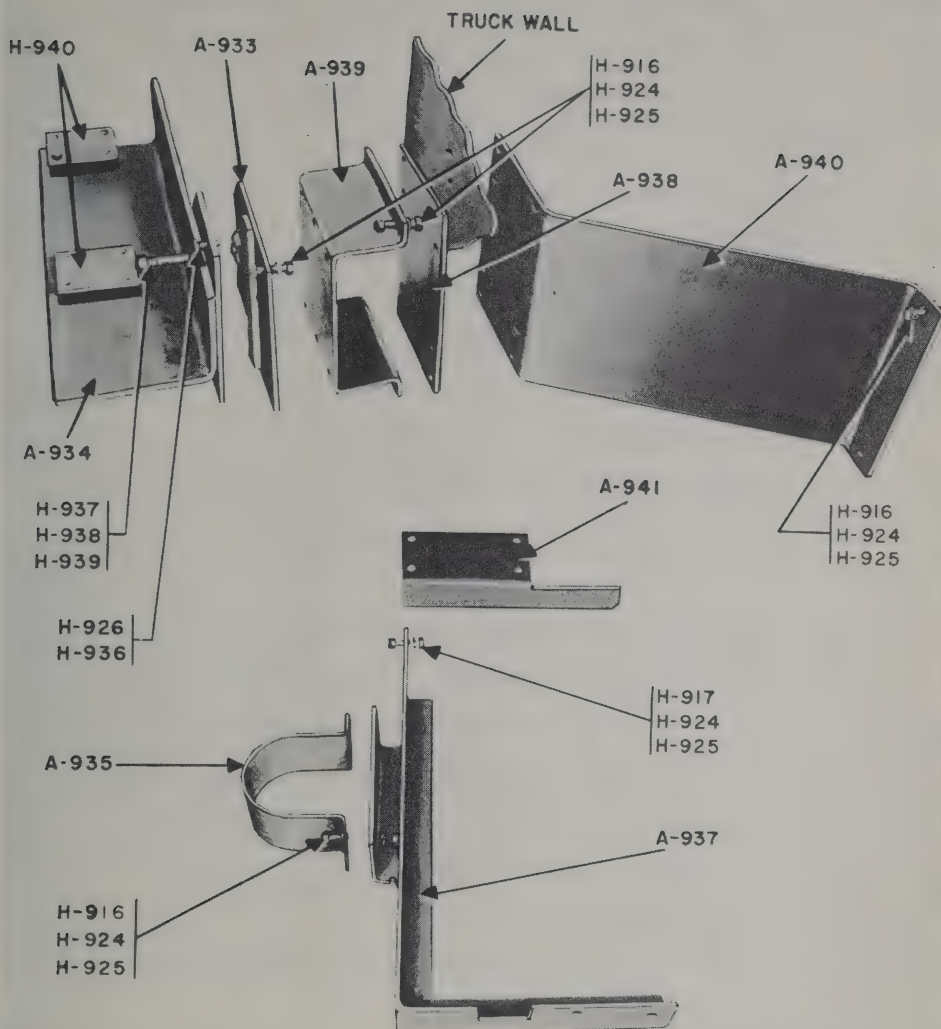

Figure 3-7. Telescopic Mast Mounting Parts for M-37 Truck
i. Insert the 1/2-13 shoulder bolt H-937 in the 1/2 inch hole in the angle support assembly A-934 (see figure 3-7) and then bolt A-934 to the telescopic mast assembly at the two collars, A-302 and A-303, using a spacer H-940 and four 1/4-20 by 1 in. long bolts H-929, lockwashers H-921 and nuts H-920 at each collar.